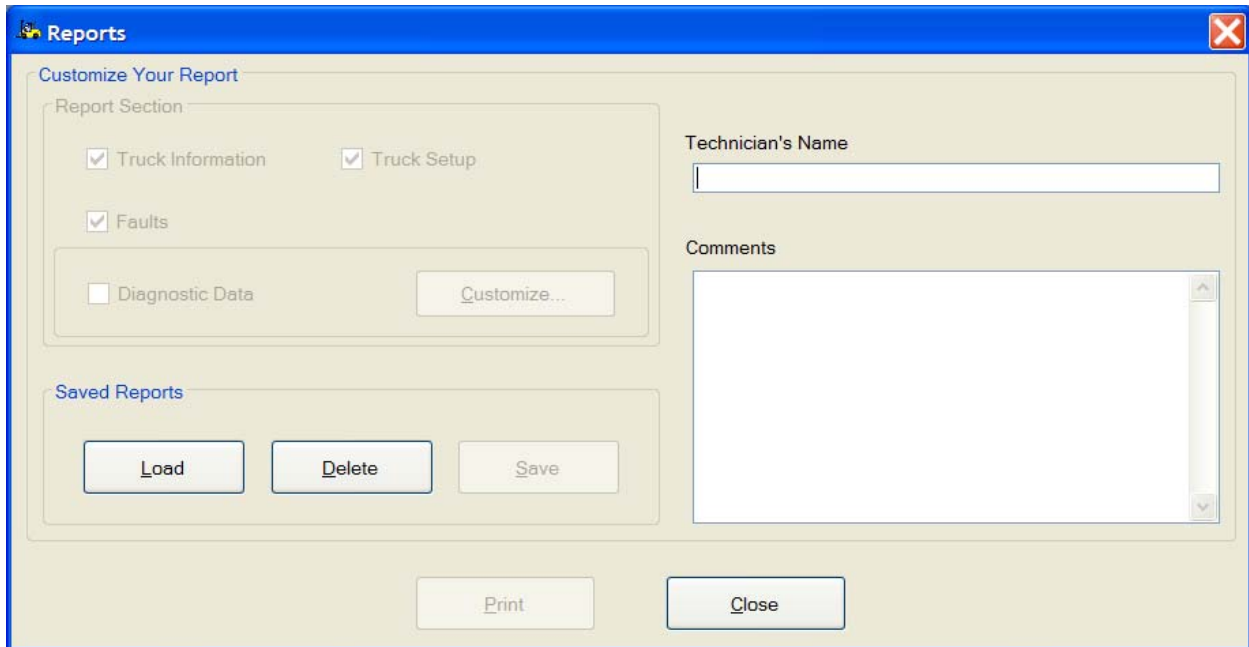

Figure 8: Reports Window
1. Select **File >> Reports**. This displays the **Reports** Window, as depicted in Figure 8: